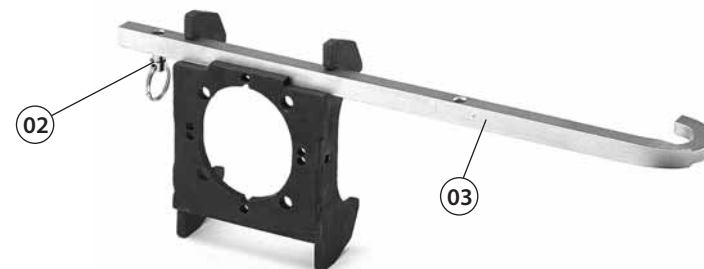

FIG. 21
- 11.1.2) Insert the **SPA...** positioning plate (03) relating to the rail to be drilled in the appropriate housing (see Fig. 21).